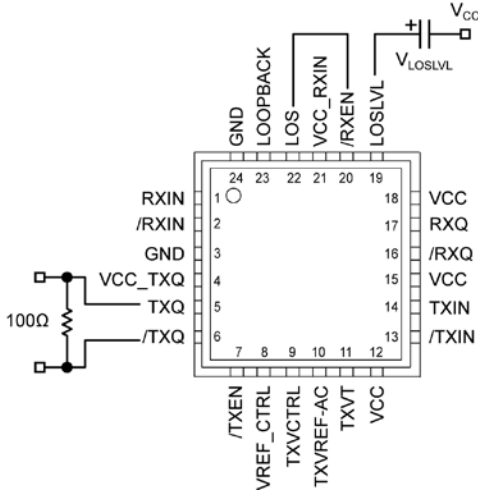

Figure 2a. Voltage Source Implementation
The SY58620L features a chatter-free Loss-of-Signal (LOS) TTL compatible output with an internal 4.75kΩ pull-up resistor. LOS circuitry monitors the input receiver signal and asserts a signal when the input signal falls below the threshold set by the programmable LOS level set pin (LOSLVL). When the amplitude of the receiver input signal falls below the threshold, LOS is asserted HIGH with a response time of ~0.2μs. LOS can be fed into /RXEN to maintain output stability by disabling the output during a Loss-of-Signal condition. Figure 2a and 2b shows the LOS connection to /RXEN. When /RXEN is HIGH, the output signal RXQ is held LOW and /RXQ is held HIGH. Typically, 2dB of LOS hysteresis is adequate to prevent the receiver output from chattering. LOS operation is optimized for data rates ≥622Mbps with an input receiver amplitude of at least 10mV (20mV_{PP}). Due to the long time constant in slower data rates below 622Mbps, the SY58620L LOS function does not guarantee chatter-free operation for low amplitude signals.
LOS detection trip-point by setting up a voltage divider between VCC and VREF (an internal voltage source set at VCC-1.3V), since there is a 2.8kΩ internal resistor connected between LOSLVL and VREF. The input voltage range of LOSLVL ranges from VCC to VREF. See the “Functional Block Diagram” section and Figures 2a and 2b, to see how RLOSLVL sets up a voltage divider between VCC and VREF. Refer to the “LOS Output DC Electrical Characteristics” table and “Typical Operating Characteristics” section to see how different RLOSLVL values affect LOS sensitivity.
- Connecting the input /RXEN to the LOS output as shown in Figures 2a and 2b, maintains receiver output stability under a Loss-of-Signal condition